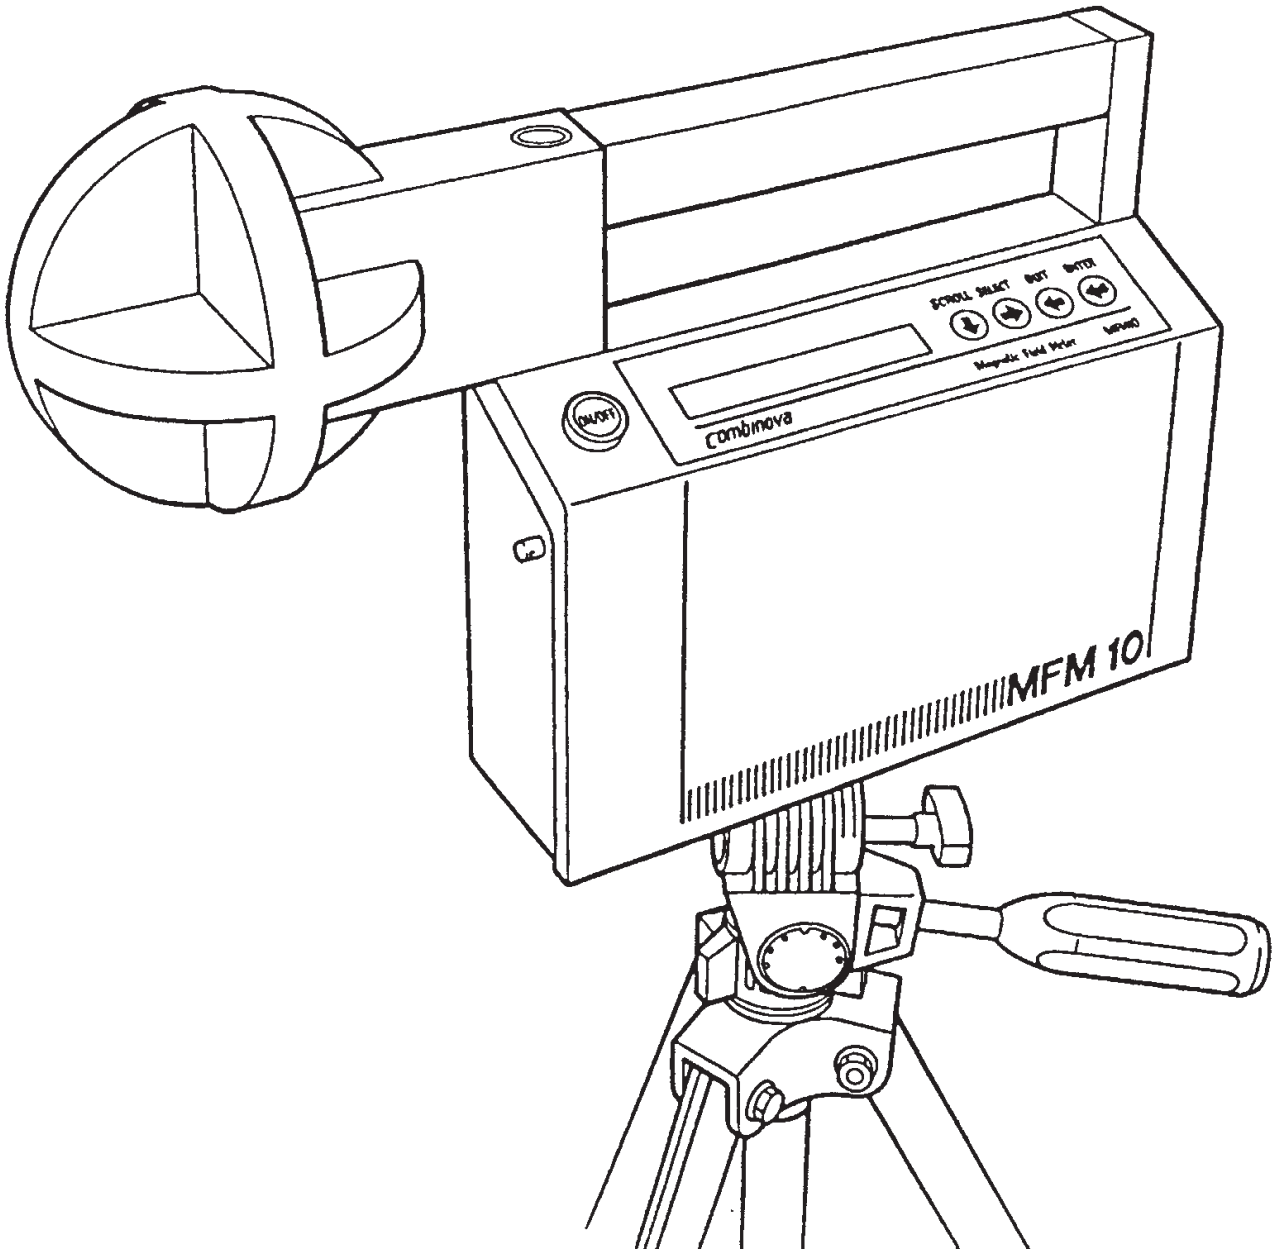

Fig. 1.1 MFM 10
- 1.2 The Instrument (Fig. 1.1)
1.2 The Instrument (Fig. 1.1)